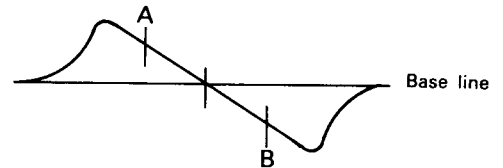

Fig. 13
5. Use the T203 core to form the S-curve shown in Fig.13. Adjust the symmetry of A and B about point C for linearity.